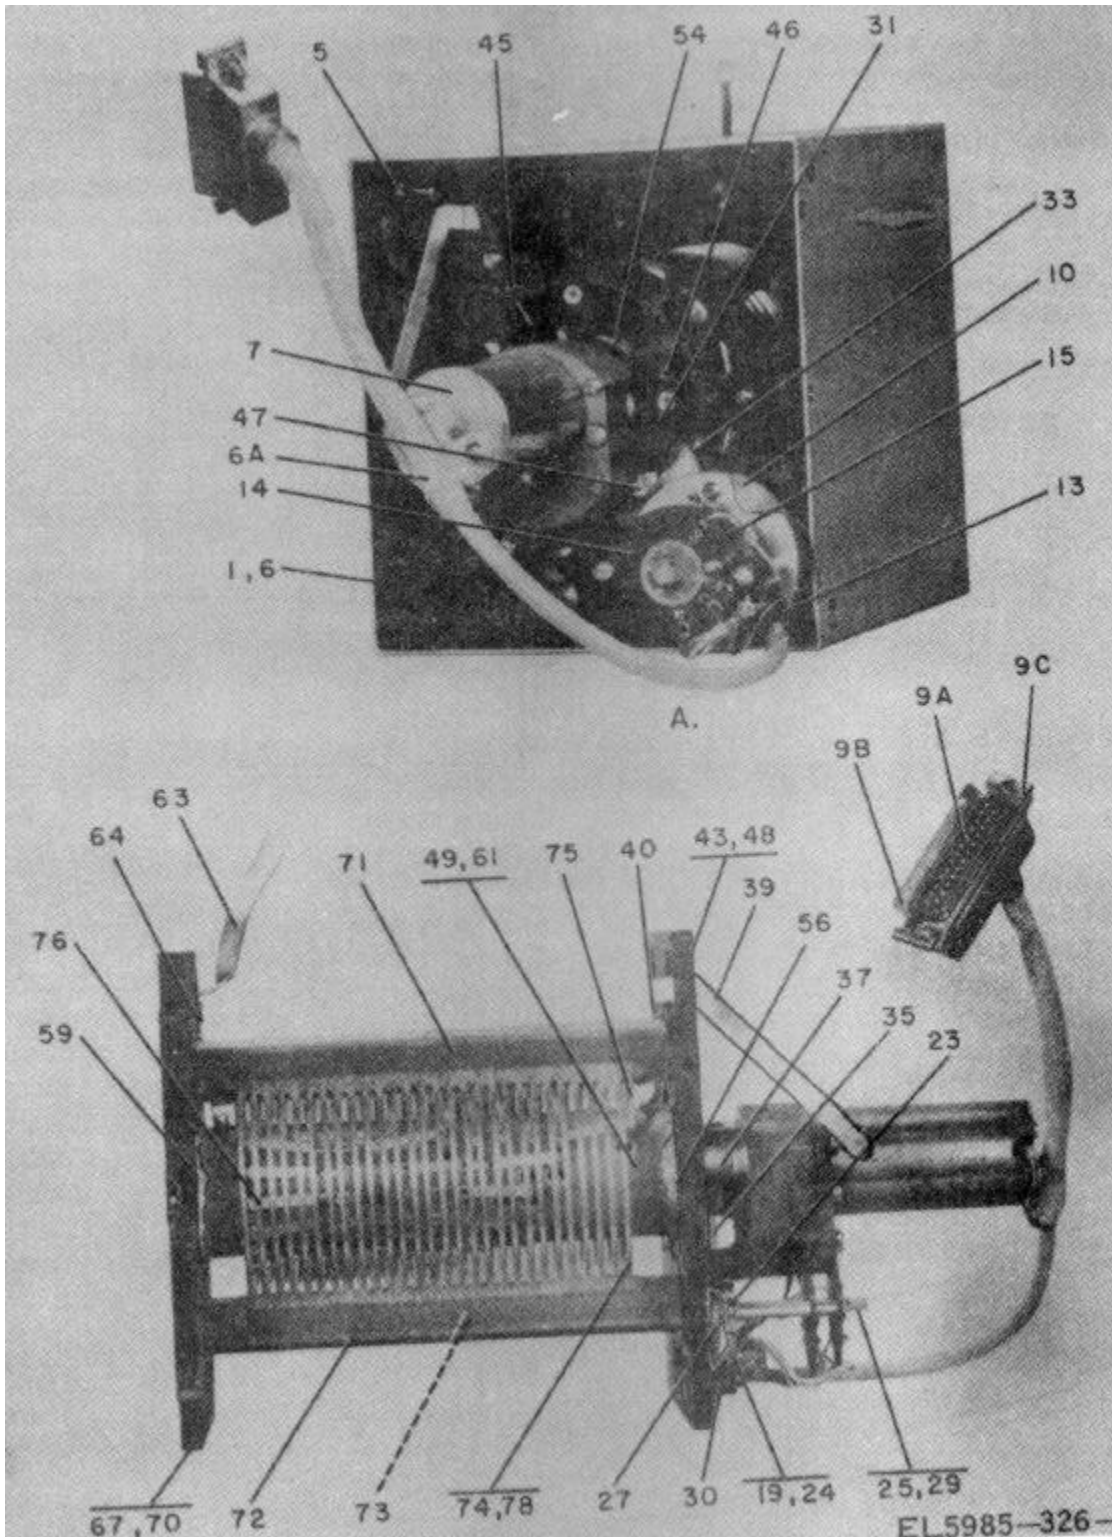

Figure 3-3. Step Coil A4, (Part Number 528-0324 -000), Parts Location.
Legend for figure 3-3:
Legend for figures 3-3. 1(1) and 3-3.1(2):